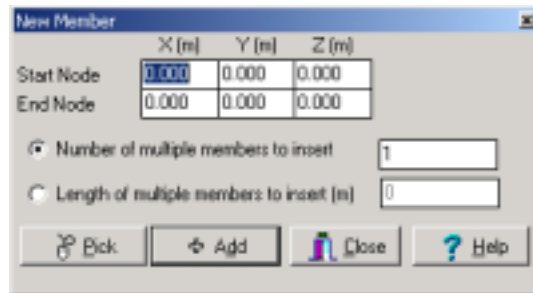

Figure 69 Members' Wizard
1. Choose the command Edit > Wizard or the appropriate icon . The dialogue box shown in figure 69 will appear.